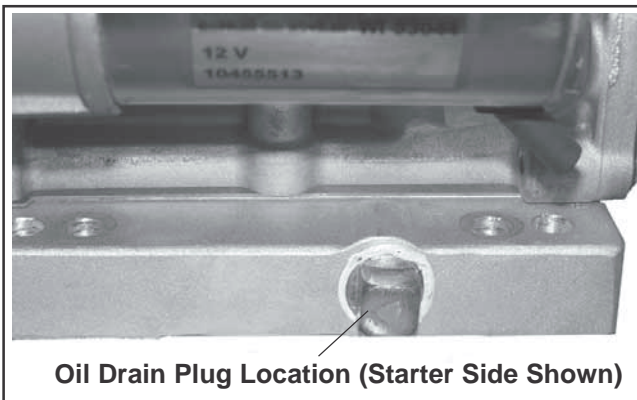

Figure 10-111. Reinstall Oil Drain Plugs.
1. Install the oil drain plugs. See Figure 10-111. Torque the plugs to **21.4 N·m (15.7 ft. lb.)**.